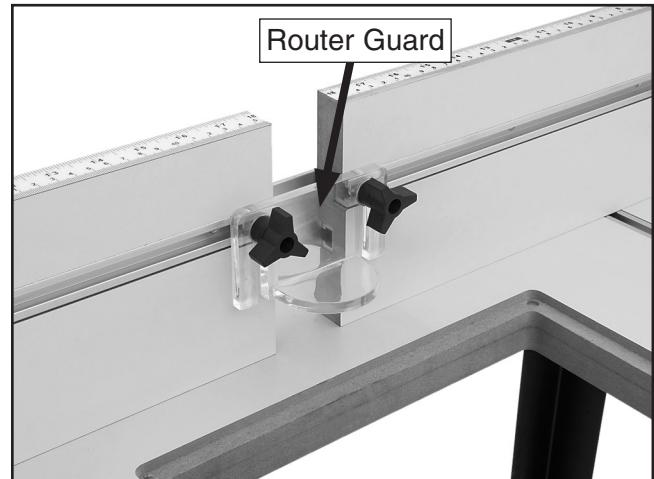

Figure 8. Router guard installed.
9. Slide the heads of the (2) M6-1 x 25 T-bolts into the T-slots on the fence board faces, position them towards the center, slide the router guard over the bolts, then secure it in place with the (2) 6mm flat washers and M6-1 tri-knobs, as shown in **Figure 8**.